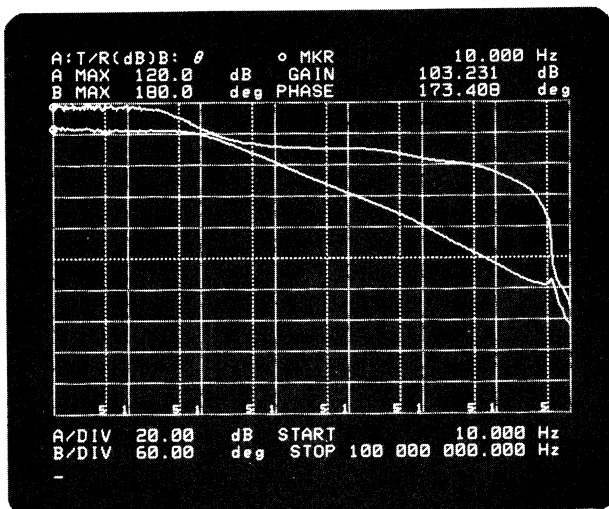

Figure 30. Results of Open-loop Gain/Phase Measurement
6. To display your results, as shown in Figure 30, perform the following key operation.